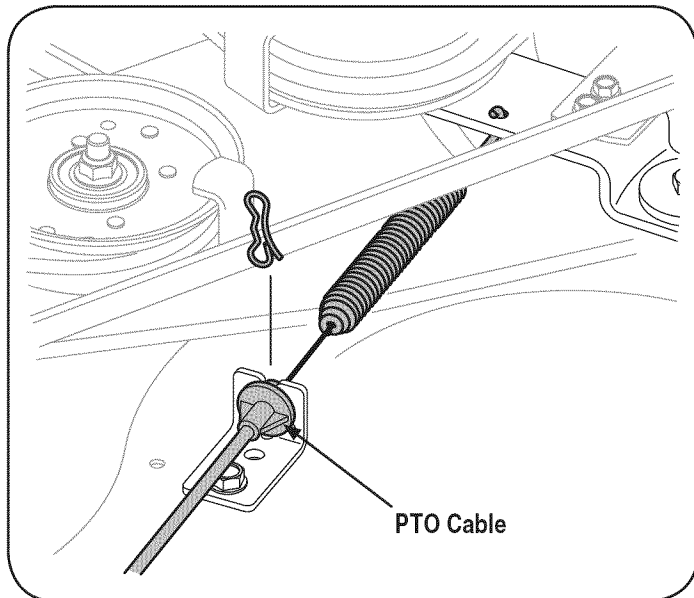

Figure 20
- Carefully remove the PTO cable from the rear of the cutting deck by removing the bow-tie cotter pin which secures it. Remove the spring from the deck idler bracket. See Fig. 20.